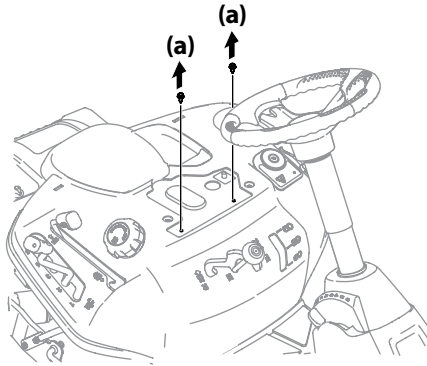

Figure 2-6
- Remove the two self-tapping bolts (a) factory installed on the riding mower. See Figure 2-6.